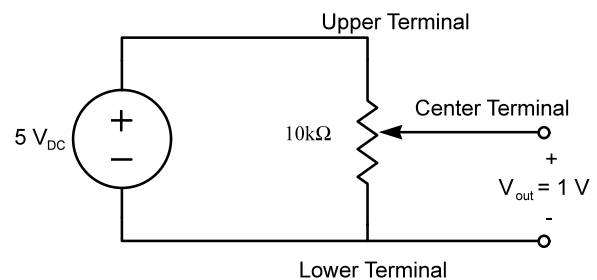

Figure 4
- b. With the power off, construct the circuit of Fig. 4. Turn on the power supply. Adjust the potentiometer so that the output, V_{out} , is one volt. Shut the power off and disconnect the supply. Carefully, without moving the arm on the potentiometer, measure the value of the resistance between the upper terminal and the center terminal, and again between the lower terminal and the center terminal.